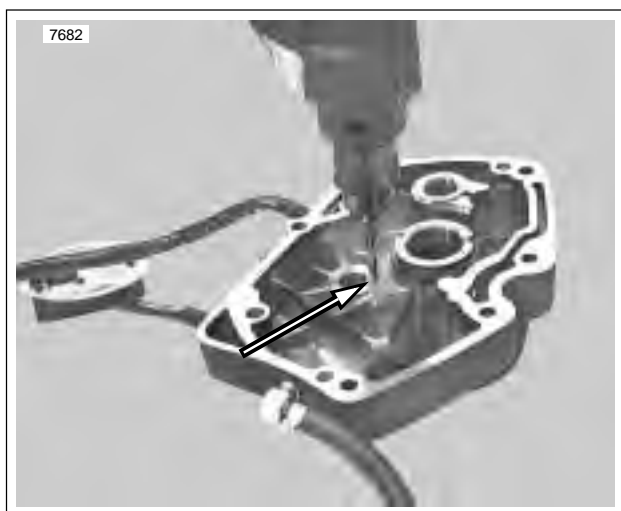

Figure 3-111. Drilling Dowel Pin Hole
2. See Figure 3-111. Although the original pinion shaft bushing is not “pinned,” the replacement bushing must be secured from possible rotation within the cover bore by installation of a dowel pin. Drill a No. 31 hole, 0.281 in. (7.137 mm) deep, at top side of boss (side toward top of gearcase cover), centering the drill bit on the cover bore circle (hole is drilled half in bushing OD and half in cover bore ID).